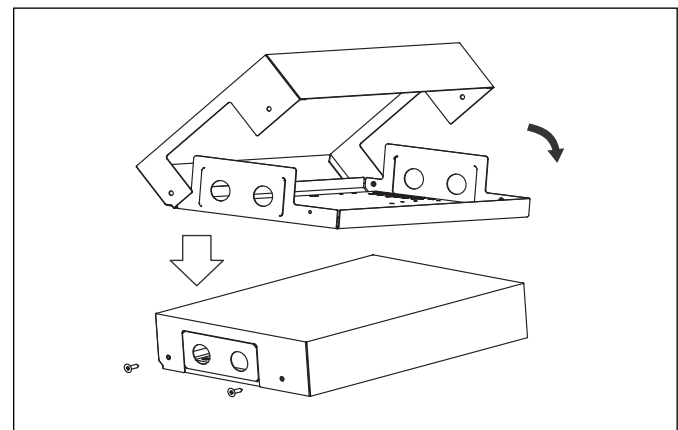

Figure 5
4. Reinstall the cover and fasten screws (see Fig. 5).